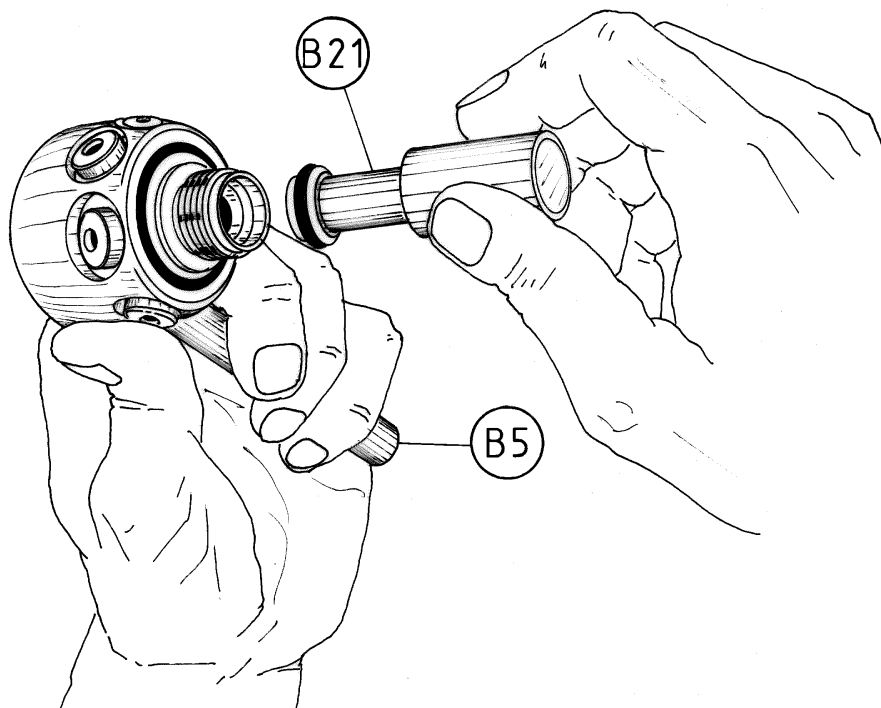

FIG. 7
2. Reassemble the O-Ring(74) on the poppet seat (75).
4. Exerting a slight pressure, push the poppet seat into position in the first stage body. (Fig. 7).